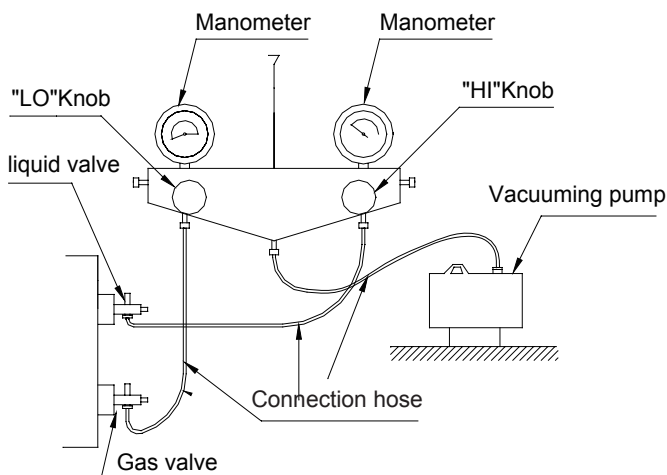

Fig.33
- (1) Confirm outdoor liquid and gas valves are closed. Air purging from the nozzle located on liquid and gas valves by vacuum pump. See Fig.33.